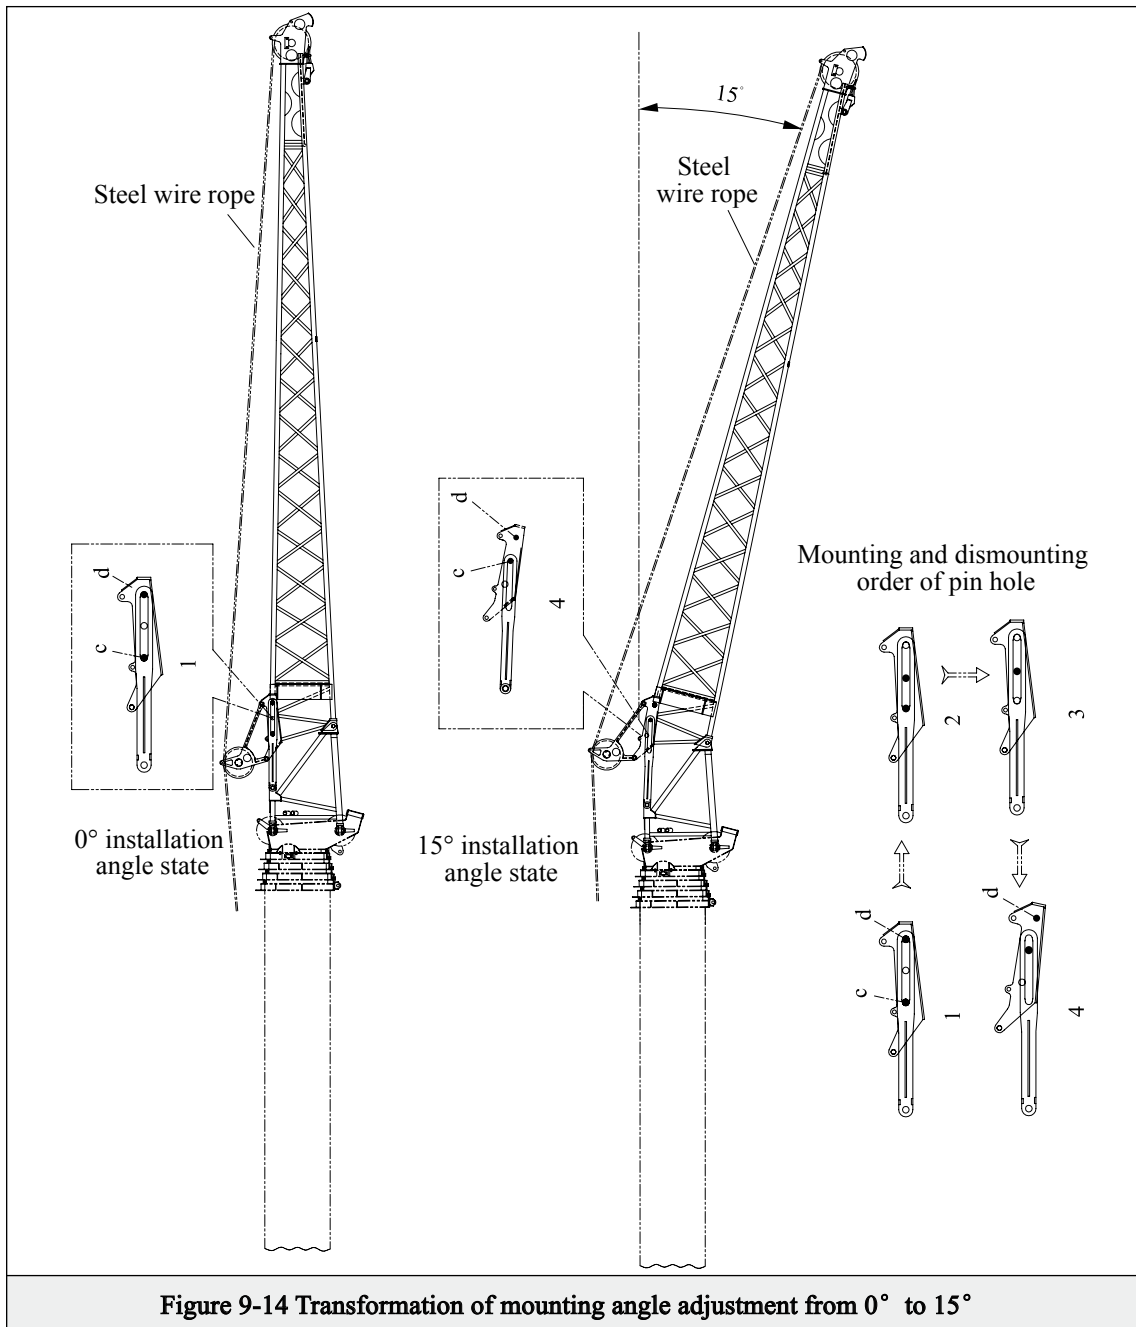

Figure 9-14 Transformation of mounting angle adjustment from 0° to 15°
1. Transformation from 0° to 15° (as shown in figure9-14)